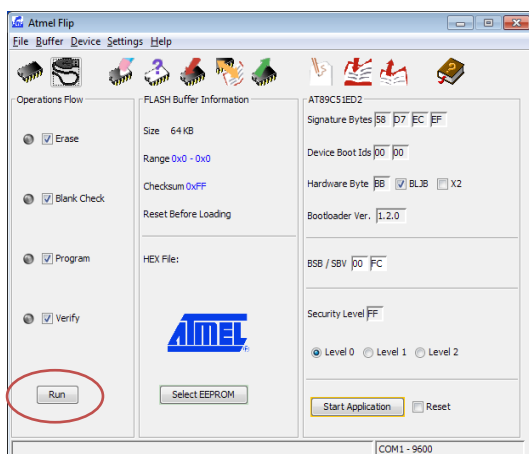
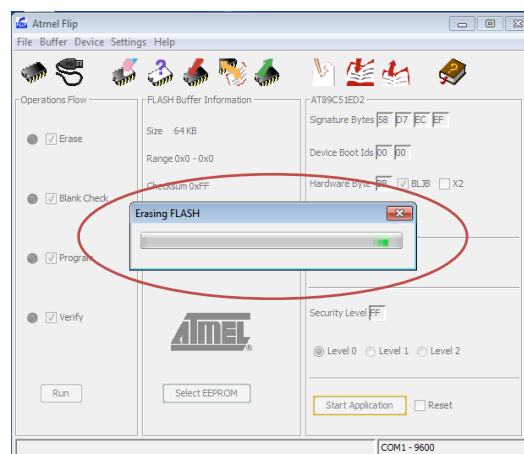

Figure 14 - Screen after loading ICB1.hex File
Figure 15 - Flashing
- 5) Once the ICB1.hex file has loaded, the firmware is ready to be flashed onto the PCB. Select the *run* option seen in Figure 14. A progress bar will appear as the loaded ICB1.hex file flashes onto the PCB, Figure 15.